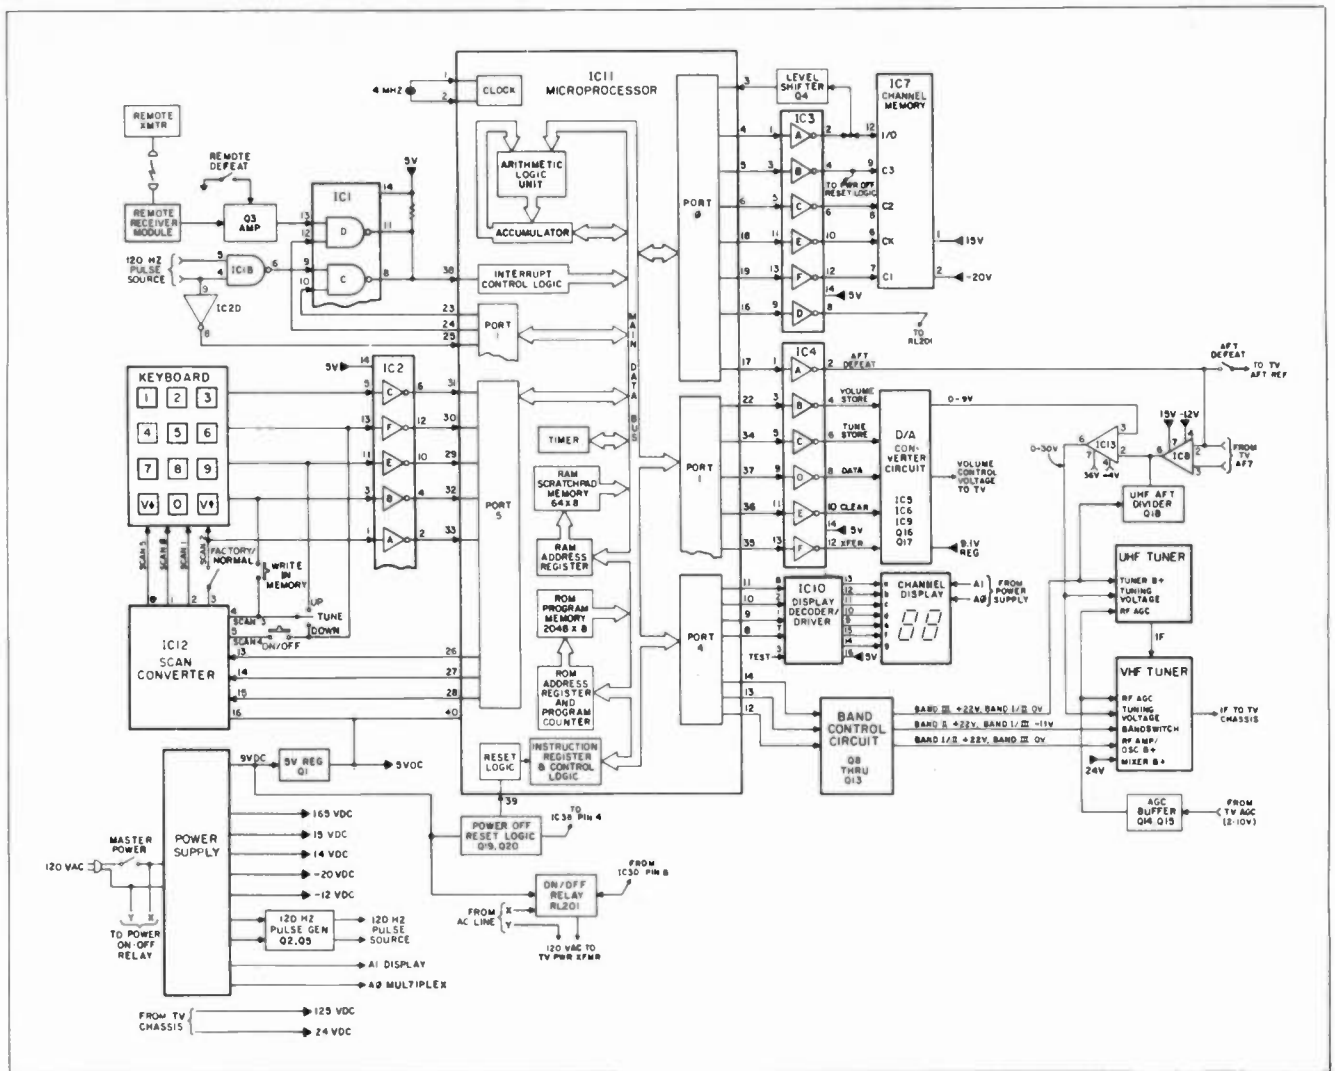

Fig. 4. The Micro-Tune block diagram (courtesy Magnavox).
1. Gain an overall knowledge of the system by studying the functional block diagram and the factory explanation of its operation. The block diagram of the Micro-Tune is shown in figure 4.